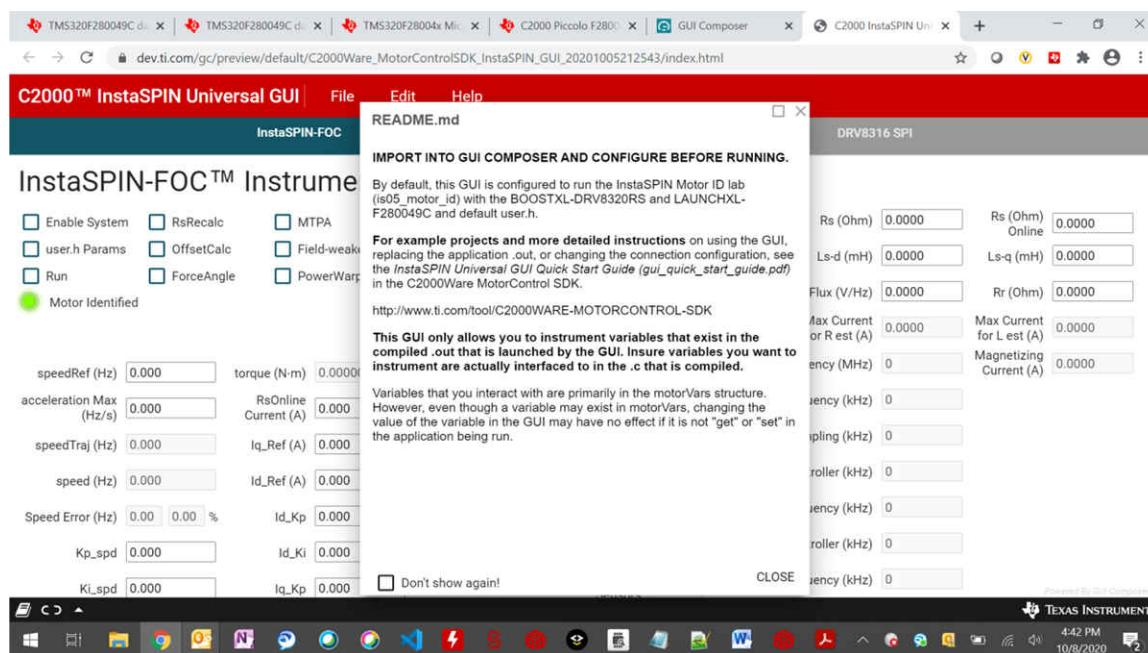
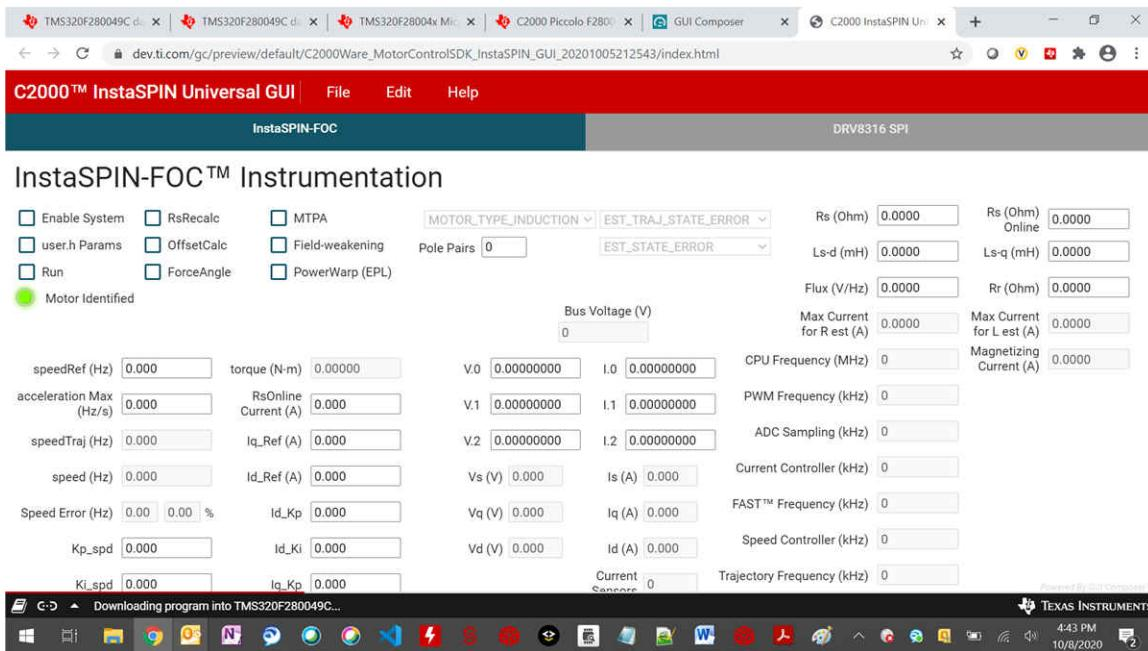

Figure 6-1. C2000™ InstaSPIN™ Universal GUI for DRV8316xEVM
Figure 6-2. C2000™ InstaSPIN™ Universal GUI Downloading Program
3. Accept the readme as shown in Figure 6-1 and check the bottom left hand corner of the screen for "Hardware Connected". Once connected, the GUI will flash the algorithm to the MCU as shown in Figure 6-2.